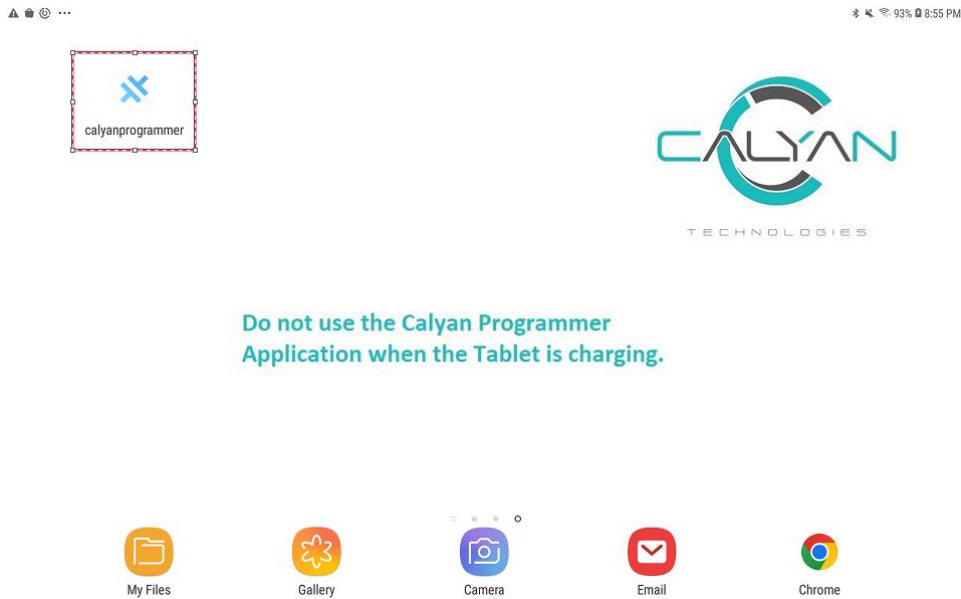

Figure 1: Calyan Programmer App
2. Find the Calyan Programmer App (Figure 1).